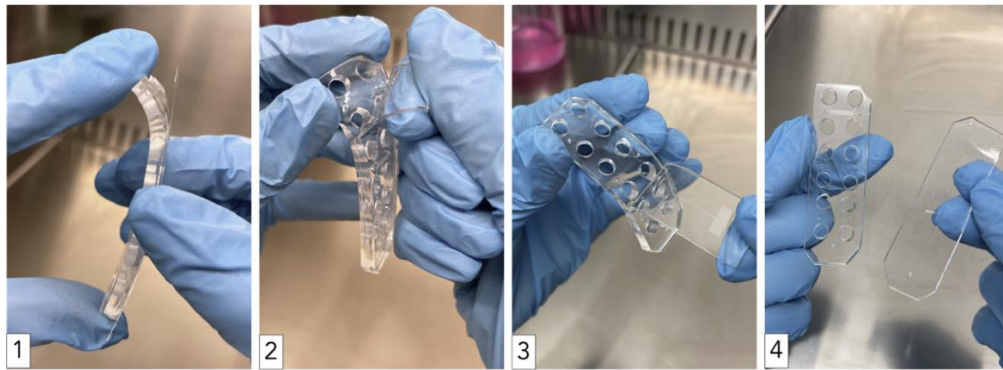

Figure 17 – Processing uBeat® Platform device to expose the micro-constructs in order to collect them for subsequent RNA extraction.
- g) Disassemble the uBeat[®] Platform (as shown in the Figure 17) by carefully detaching the glass coverslide (1). Then, peel off the top layer (2-4). The gel will remain on the top layer entrapped within the two hanging posts rows.
If you decide to use a commercial RNA extraction kit, you can avoid opening the device as detailed in Figure 17 and directly inject the buffer in the medium channels. After washing with PBS (steps b-e), fill the medium reservoirs with the lysis buffer and incubate for 3 minutes at room temperature. At this point you should be able to observe the disruption of the micro-tissues under the microscope. Wait few more minutes if you are not sure about the outcome. Retrieve the buffer with the cells as it's explained in the caption of Figure 18. **Please consider that if you use this method there is the chance that some biological material gets lost, so we suggest to collect the material from 2 chambers as one single sample.**
To achieve highest magnifications during imaging, disassemble the uBeat[®] Platform peeling the top layer off (as described in Figure 17). The gel will remain on the top layer entrapped within the pillars' rows. At this point, gently lay down the top layer on a microscope coverslide (with the construct facing down), on a drop of PBS.